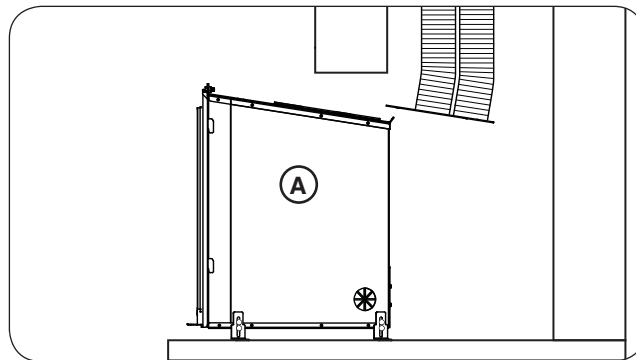

Fig. 26-1 Partially slide in unit
1. Carefully slide the direct vent insert just inside of the fireplace opening, still allowing for access to the interior of the fireplace (see Fig. 26-1, A). Ensure the insert is properly supported during this entire process.